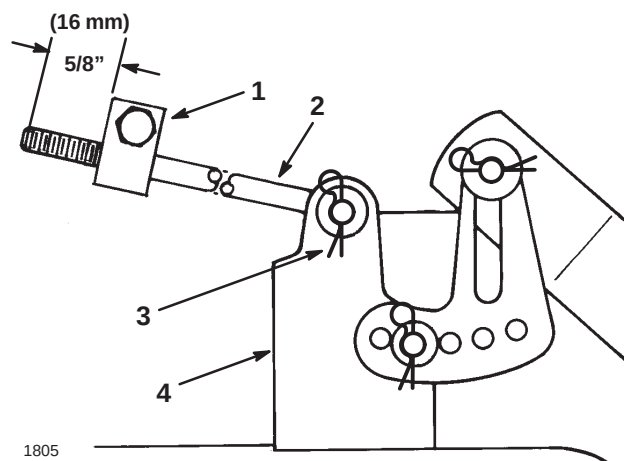

Figure 50
5. Measure the length of the rod extending out the front of the adjusting block on the sides of the chassis (Fig. 50). If the rod length is not 5/8” (16 mm), remove the hair pin cotter and washer from the end of the rod (Fig. 50), and turn the rod until the 5/8” (16 mm) dimension is obtained. Then install the end of the rod into the hole in the mower mount and secure in place with washer and hair pin cotter. Repeat this procedure on the opposite side of the mower.